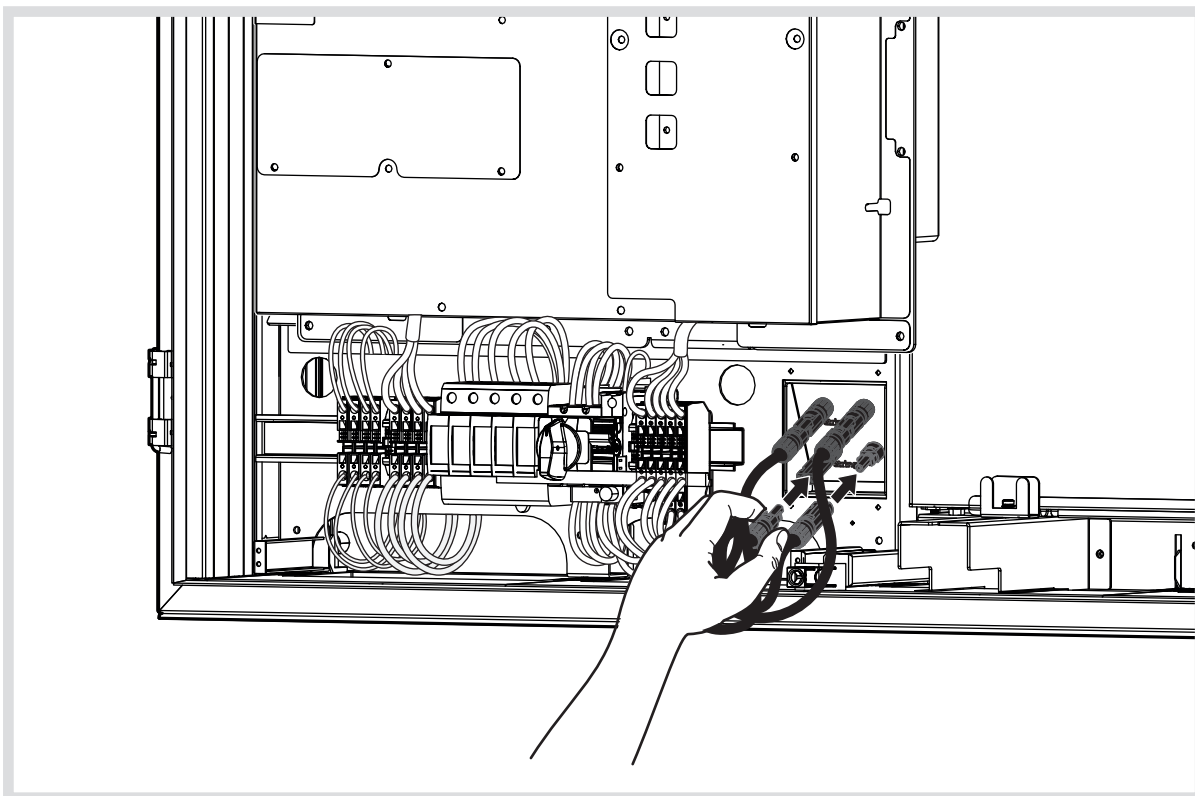

Figure 30: Connecting the photovoltaic modules
**Measure the insulation resistance between the protective earth (PE) and positive cable and/or the protective earth (PE) and negative cable of the photovoltaic generator. The measured insulation resistance must be within the limits specified in VDE 0126-23-1:2019-04.**
- Plug the MC4 plugs into the jacks marked with + (Figure 30).
- Plug the MC-4 jack onto the MC-4 plug marked with – (Figure 30).